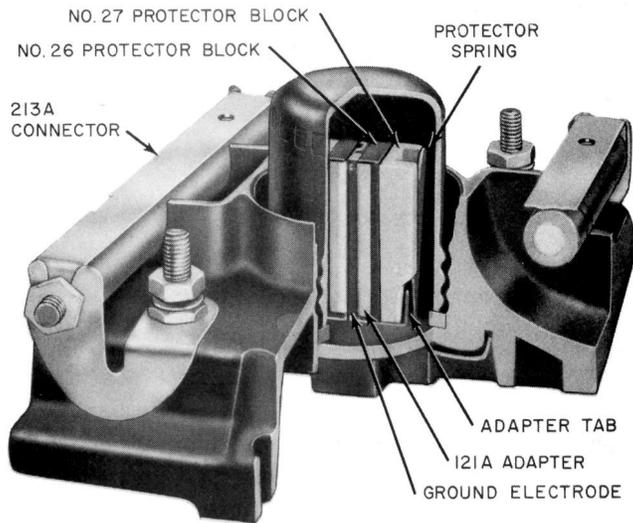

Fig. 104—Converted 98A (MD) Protector
(12) Tighten nuts on fuses (Fig. 104).